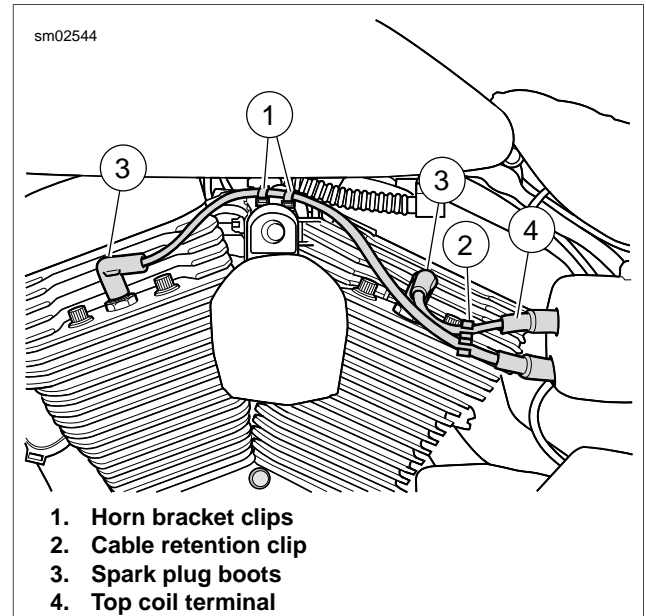

Figure 8-7. Spark Plug Cable Routing
2. See Figure 8-7. Remove clips (1) on horn bracket for front spark plug cable.
1. See Figure 8-7. Connect spark plug cables to ignition coil and spark plugs. Rear cylinder plug cable attaches to top coil terminal (4). Fasten boots/caps securely. Tight connections provide the necessary moisture-proof environment for the ignition coil and spark plug terminals.
2. Secure front spark plug cable to horn bracket with clips (1).
3. Install cable retention clip (2) over spark plug cables. Be sure clip is 1.5-2.0 in. (38.1-50.8 mm) from spark plug boots (3).